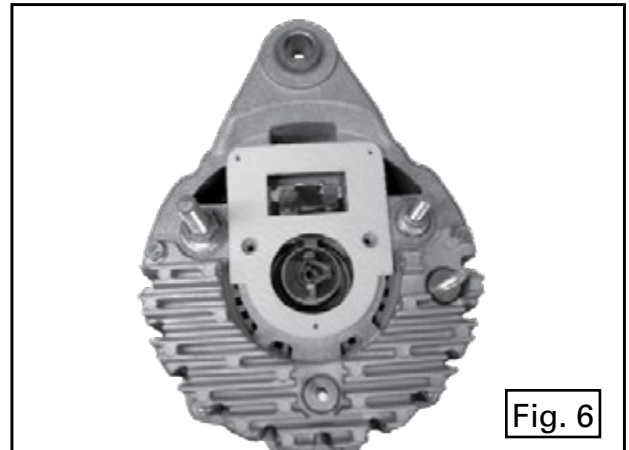

Fig. 6
Step 6: Place gasket furnished with kit onto alternator. (Fig.6)